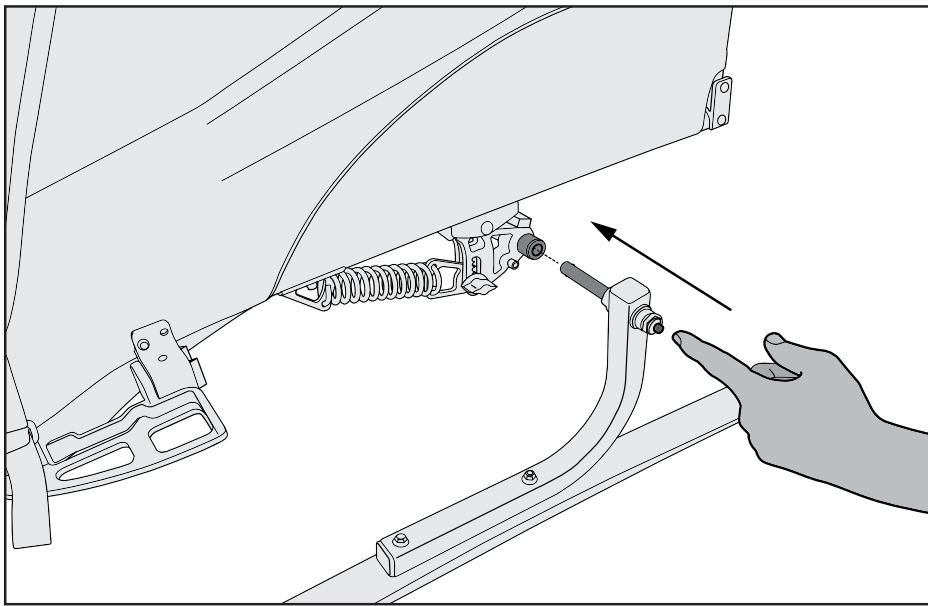

Figure 1
2. For trailers with Push Button (PB) axles: Press the button on the outside of the PB ski axle and slide the ski axle into the trailer axle (Figure 1). Pull firmly outward on ski to confirm the ski axle is fully engaged. Repeat on opposite side.